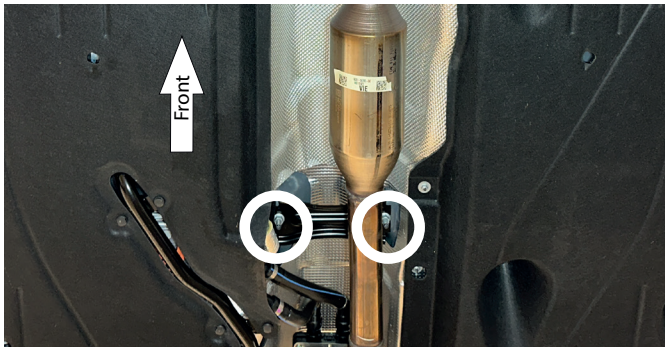

Fig. 1
1. Remove factory nuts, but leave the factory bracket installed as shown in Fig. 1.